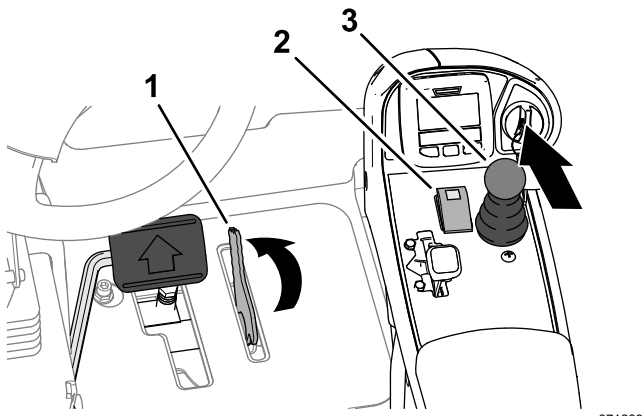

Figure 112
3. Rotate the lever for the mow-speed limiter forward to the Mow position (Figure 112).